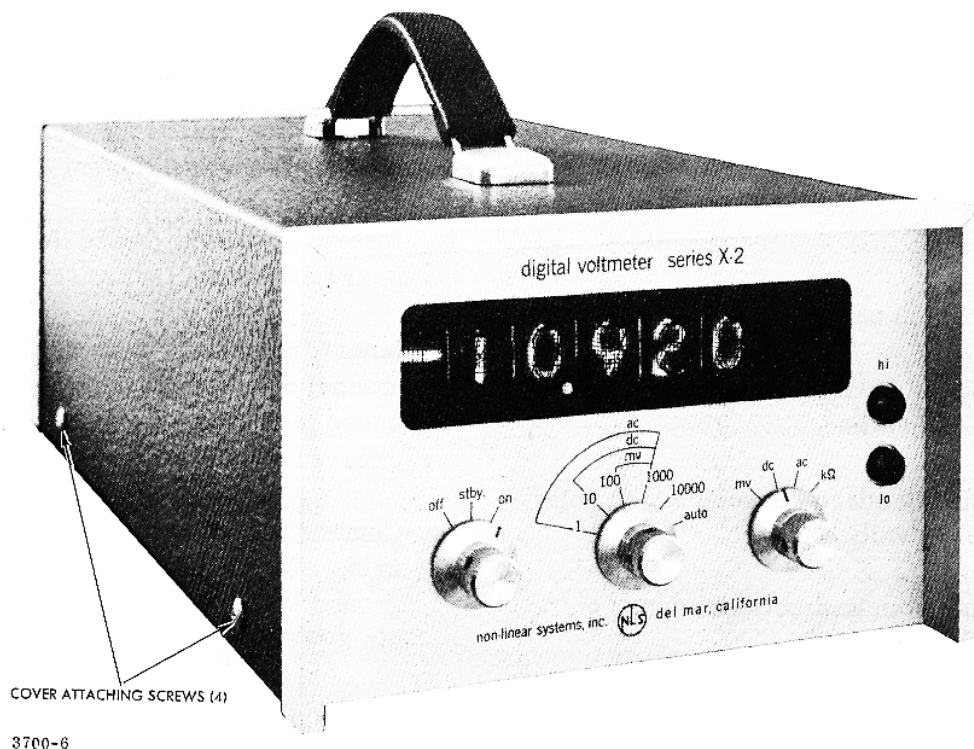

Figure 3-1. Cover Removal
1. Remove the cover of the instrument by removing the four screws (two on each side) attaching the cover to the chassis (Figure 3-1).